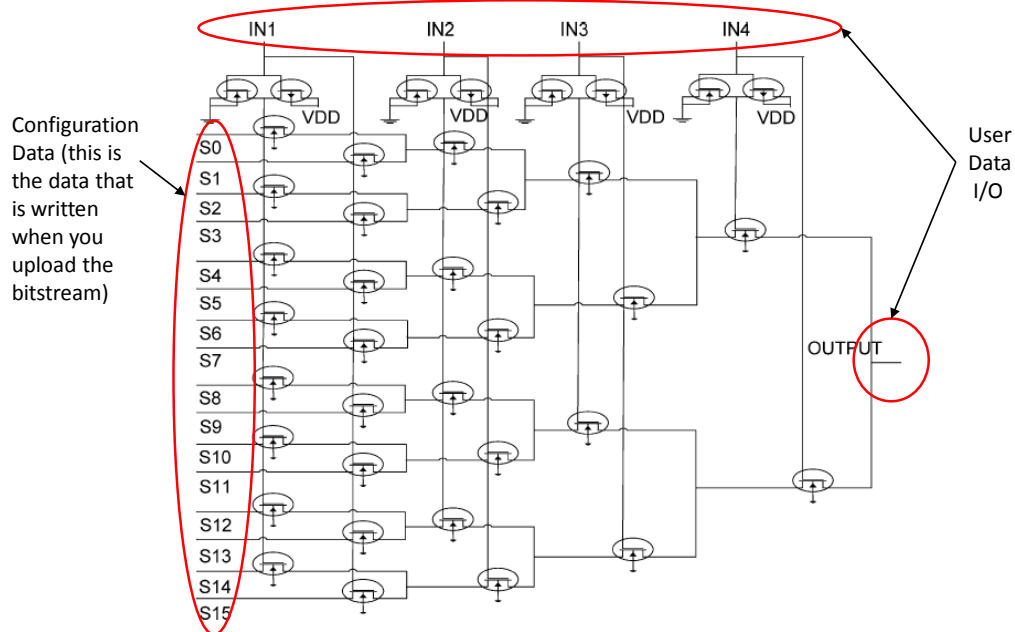

Figure 6-6
- Now configure the FPGA Board to run with 40 MHz (see point (9) in Figure 6-6) and upload the bootloader bit-file (created in first step) with iMPACT. The UART port on the FPGA is configured to work with 40 MHz and if you use a faster or slower frequency, then you will not see the correct output via UART. The bootloader will prompt on the UART-Console for initializing the SRAM. It will ask for three things (you have to answer with pressing ‘y’ or ‘n’): Initialize IM, Initialize DM, and Start Application.